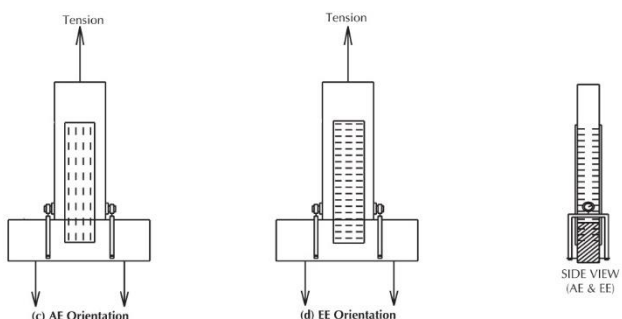

Figure 2. AE and EE Orientations (TPI 1 Figure 5.2-3)
- AE denotes that the plate's slots are parallel to load and the load is perpendicular to grain (see Figure 2, showing the wide face connection).
- EE denotes that the plate's slots are perpendicular to load and the load is perpendicular to grain (see Figure 2, showing the wide face connection).